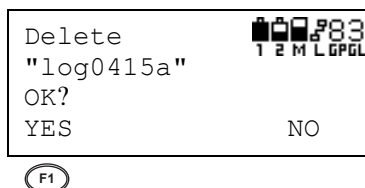

Figure 3-106. Confirm File and Press F1 to Delete
4. Check that the correct file is selected, then press **F1 (YES)** to delete the file (Figure 3-106).